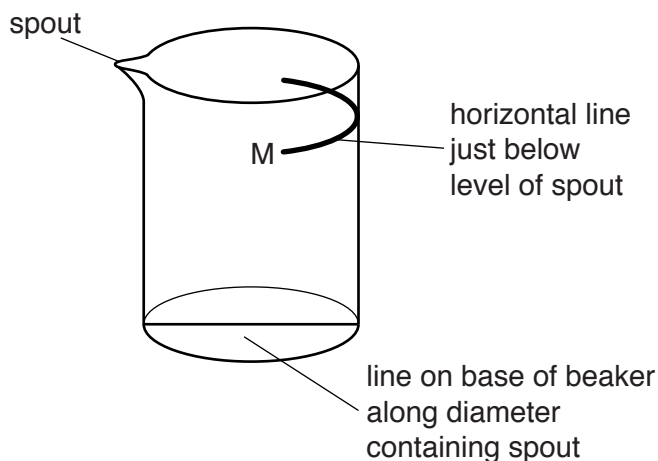

Fig. 3.1
1. A horizontal black line, of length about 5 cm and width about 1 mm, should be drawn around the outside of the beaker using a permanent marker pen. This line should be opposite the spout and just below the level of the spout (if present). The line should be labelled M. Another black line must be drawn on the base of the beaker with a permanent marker pen. This line is along the diameter, containing the spout, as shown in Fig. 3.1. The line should be 2 mm to 3 mm thick with one end of this line below the centre of line M.